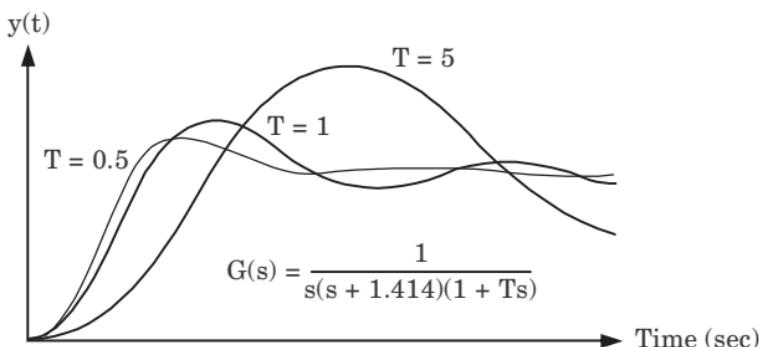

Fig. 19. Unit-step responses of a third-order system with a forward-path transfer function $G(s)$.
- We can obtain a qualitative indication on the bandwidth properties by referring to Fig. 19, which shows the plots of $|M(j\omega)|$ versus ω for $\omega_n = 1$, $\zeta = 0.707$, and various values of T . Since the system is now of the third order, it can be unstable for a certain set of system parameters.
4. The unit-step responses of Fig. 19 show that for larger values of T , $T = 1$ and $T = 5$, the following relations are observed :